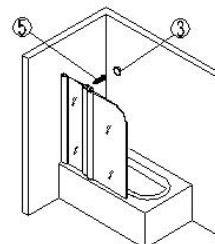

Fig.5
Step3: Fix the glass door (#10 in PL) to the fixed panel profile with ST4\*12 screws. Attach the screw cap. See Fig.5